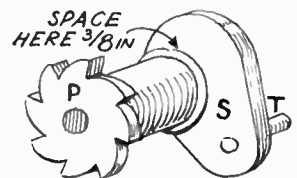

Fig. 4
the spindle, filling in with little wedges of wood to take up the space round the spindle, this latter being less in diameter than the hole in the drum. The spindle, it will now be found, projects about  $\frac{1}{8}$  in. beyond the face of (G) on the opposite side from the ratchet disc. Now make a crank as (S) in Fig. 4  $1\frac{1}{2}$  ins. long and  $1\frac{1}{2}$  in. at the widest part. Cut a  $\frac{1}{2}$  in.